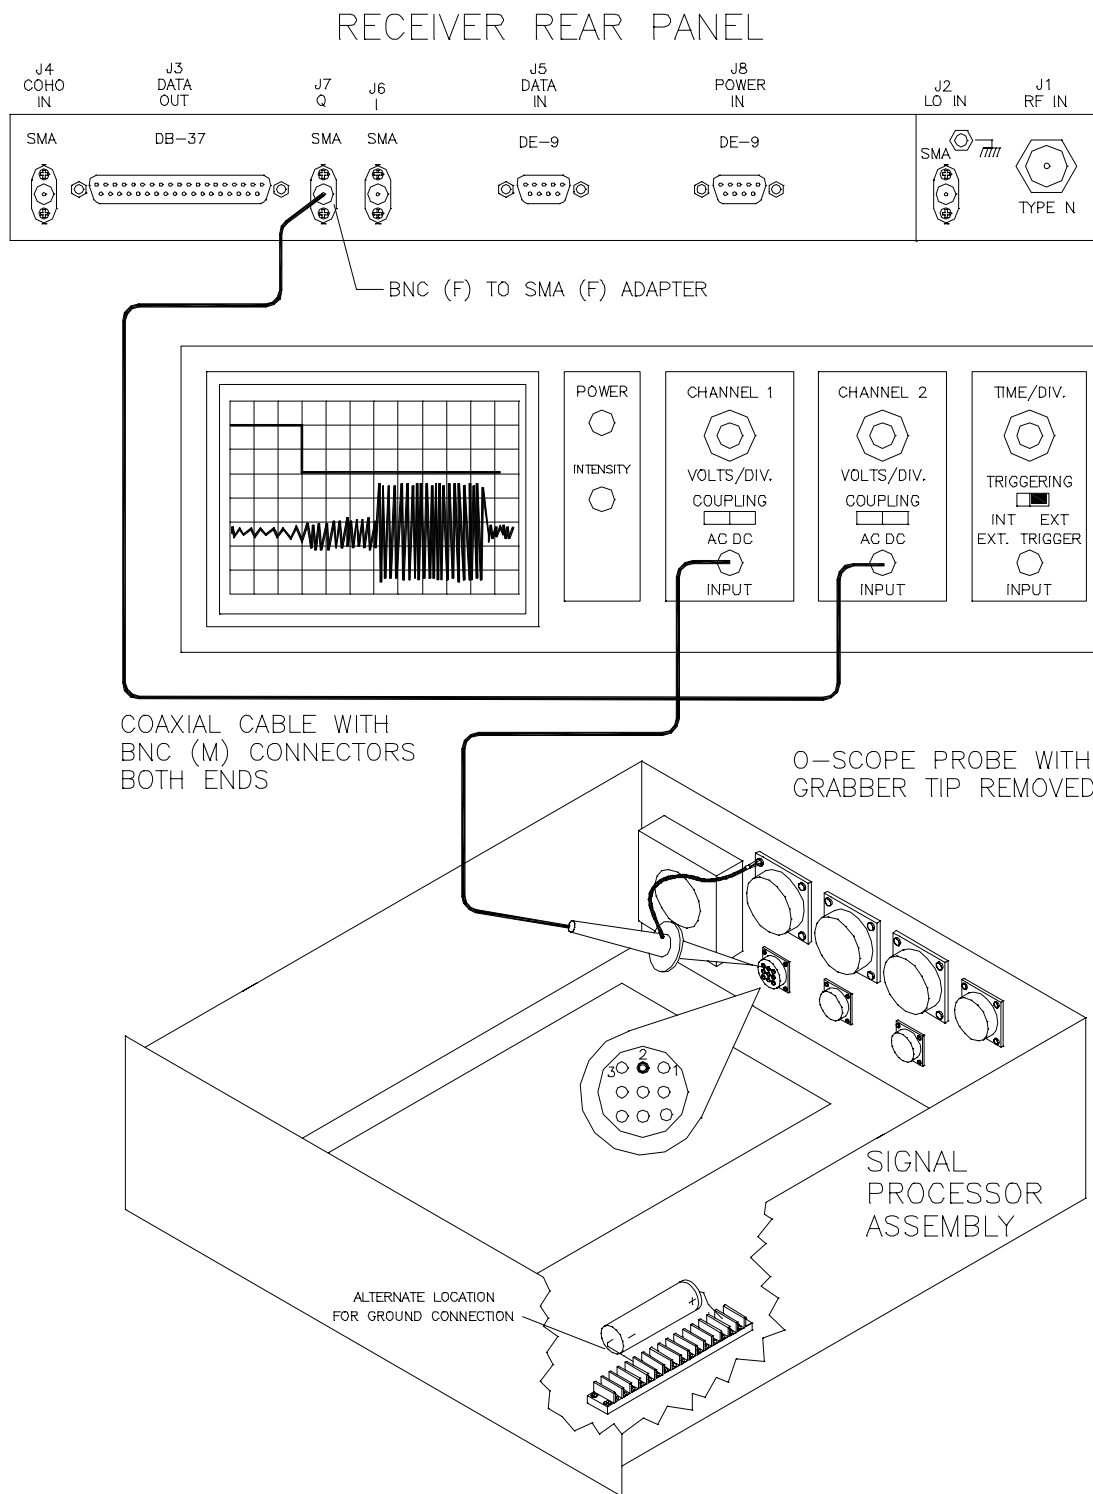
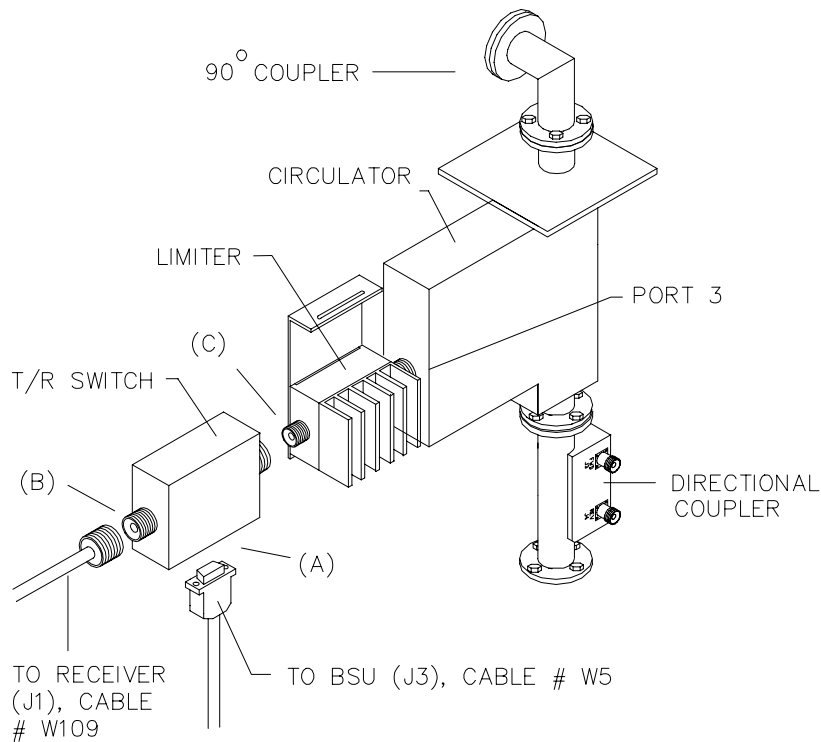

Figure 5-6 Receiver STC Alignment Test Equipment Setup
Figure 5-10 Transmit/Receive (T/R) Switch Replacement
3. Connect an oscilloscope-probe to Channel One of the oscilloscope. Unscrew the grabber-tip from the probe to expose the pointed tip. Insert the scope probe into pin 2 of connector J3 in the rear panel from inside the Signal Processor chassis, as shown in Figure 5-6.
4. Screw an SMA (M) to BNC (F) adaptor onto connector J6 or J7 on the rear panel of the Type 2 Receiver. Connect a coax cable (with BNC connectors on both ends of cable) between Channel Two of the oscilloscope and the I (J6) or Q (J7) output on the rear panel of the Receiver as shown in Figure 5-6.
2. With the Receiver's input (J1) terminated with a 50 ohm load, the oscilloscope will display waveforms similar to those shown in Figure 5-10. If the waveforms on the oscilloscope do not resemble those in Figure 5-7 and Figure 5-8, verify that the oscilloscope is triggering on pin 2 of connector J3 in the Signal Processor. The J3 connector may be rotated, and pin 2 may not be on top of the connector as it is shown in Figure 5-6.
3. Using a small screwdriver, remove the retaining screws from the DE-9 connector on cable #W5 point (A) in [Figure 5-10] and remove the connector from the bottom of the T/R Switch.
4. Remove cable #W109 from the output of the T/R Switch point (B) in [Figure 5-10].
5. Loosen the type "N" connector that attaches the T/R Switch directly to the Limiter point (C) in [Figure 5-10] and remove the T/R Switch from the BSU Cabinet.